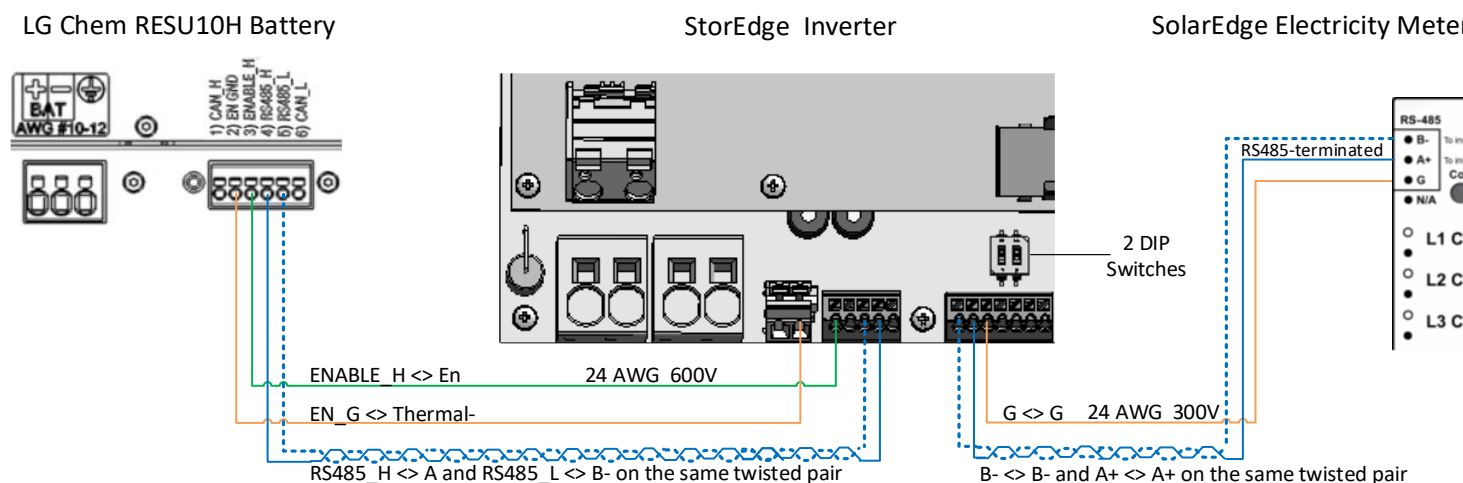
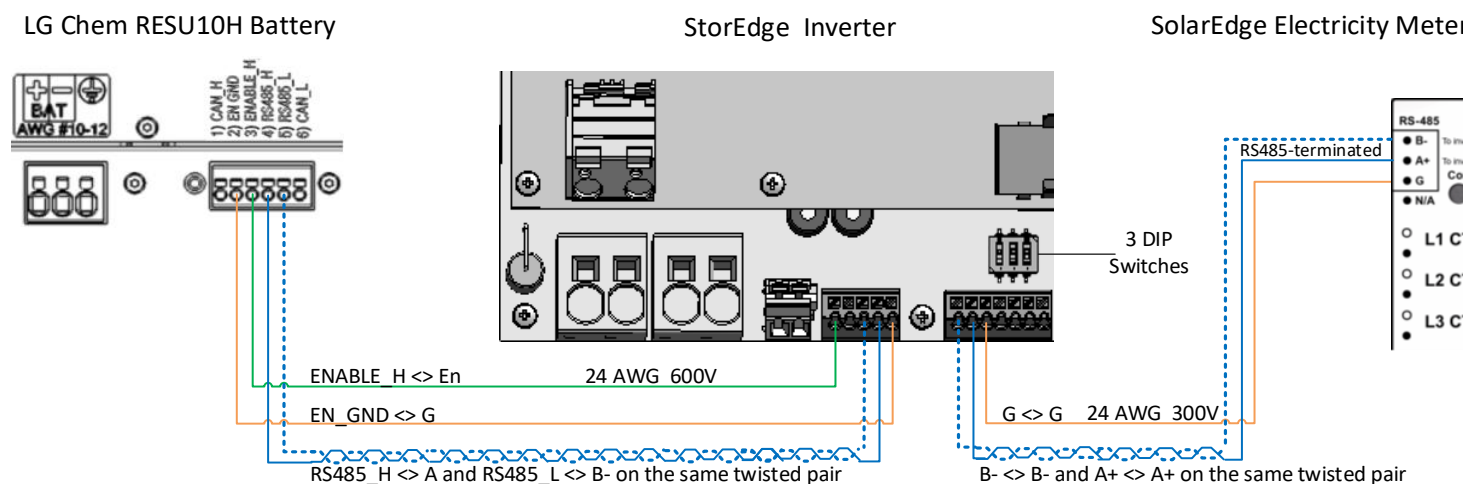

Figure 2: Connecting an LG Chem RESU10H Battery to a StorEdge Inverter with Two DIP Switches and SolarEdge Meter
Figure 3: Connecting an LG Chem RESU10H Battery to a StorEdge Inverter with Three DIP Switches and SolarEdge Meter
StorEdge Inverter with 3 DIP Switches	See Figure 3 on page 3
1.8 Verify that the Inverter's DIP switches are configured to connect to the Auto-transformer, as shown above in Figure 2 (for boards with two DIP switches), and Figure 3 (for boards with three DIP switches).	<input type="checkbox"/>